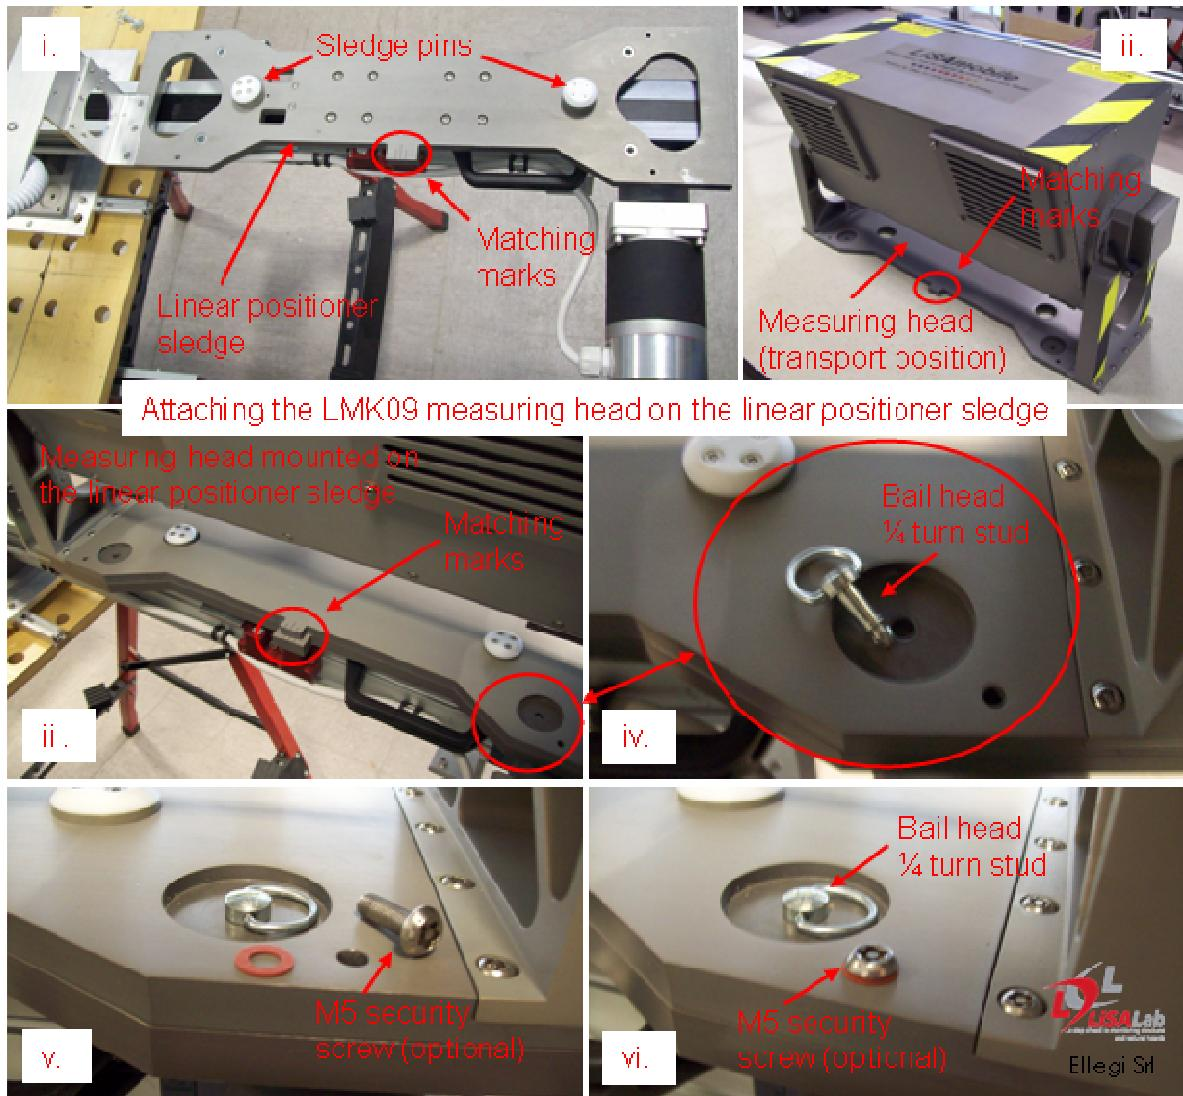

Figure 10: Step 4 of the installation procedure. Mounting the measuring head LM on the linear positioner sledge.
4. Mount the system measuring head (LM) on the linear positioner sledge (Figure 10). When the system is switched off, the measuring head should be kept in the “transport position”. On the linear positioner sledge there are two pins similar to the one found on the system counterplate that are used to match the sledge and the measuring head base plate. There are also three matching marks both on the sledge and on the measuring head base plate that must be aligned if the measuring head is mounted in the correct position. After having set down the measuring head on the linear positioner head it has to be secured with four bail head 1/4 turn studs and optionally with four M5 security screws (always install the security screws with their o-rings).